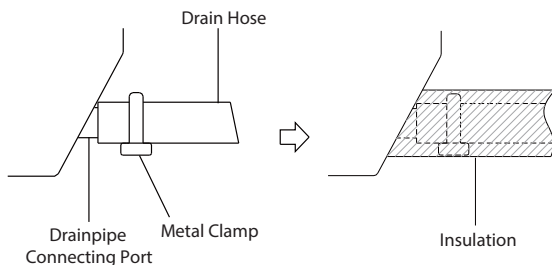

Fig. 6.1
2. Attach the mouth of the drain hose to the unit's outlet pipe. Sheath the mouth of the hose, and clip it firmly with a pipe clamp. (Fig 6.1)